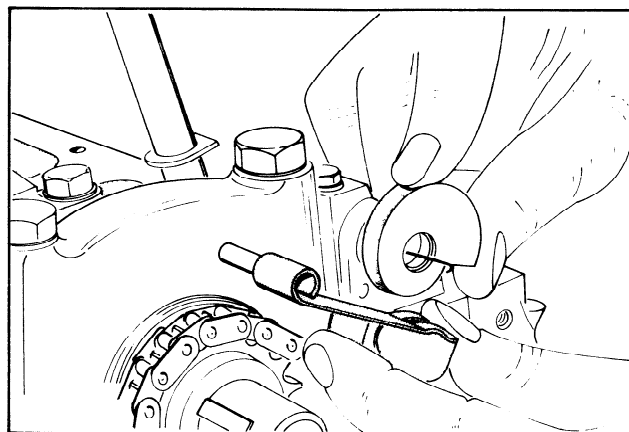

FIG. 48 Installing Timing Chain Tensioner
12. Position the timing chain tensioner arm on the pivot pin and install the tensioner (Figure 48).